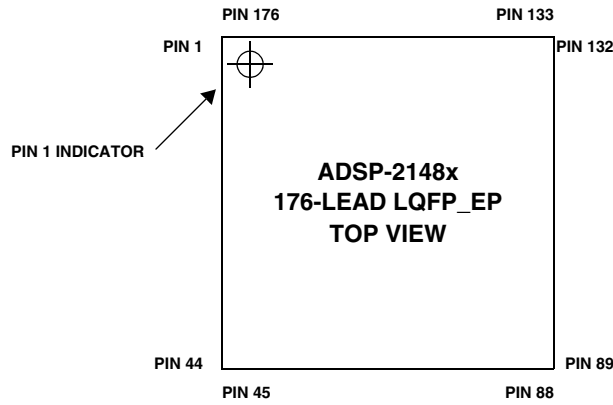

Figure 51. 176-Lead LQFP_EP Lead Configuration (Top View)
* Pin no. 177 is the GND supply (see Figure 51 and Figure 52) for the processor; this pad must be **robustly** connected to GND.
Figure 51 shows the top view of the 176-lead LQFP_EP pin configuration. Figure 52 shows the bottom view of the 176-lead LQFP_EP lead configuration.